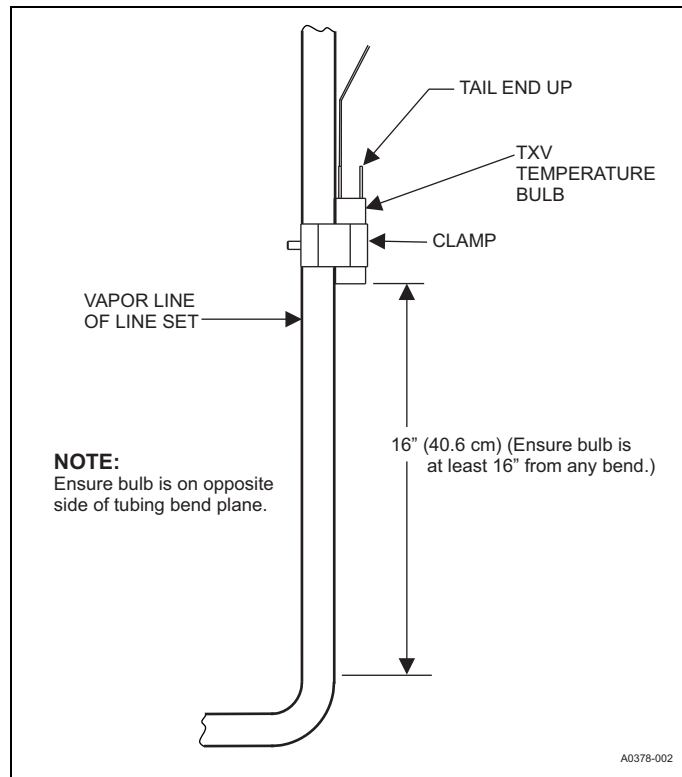

FIGURE 4: Vertical Temperature Bulb Orientation
- b. If bulb installation is made on a vertical run, locate the bulb at least 16" (40.6 cm) from any bend, and on the tubing sides opposite the plane of the bend. Position the bulb with the tail of the bulb at the top, so that the bulb acts as a reservoir. See Figure 4.